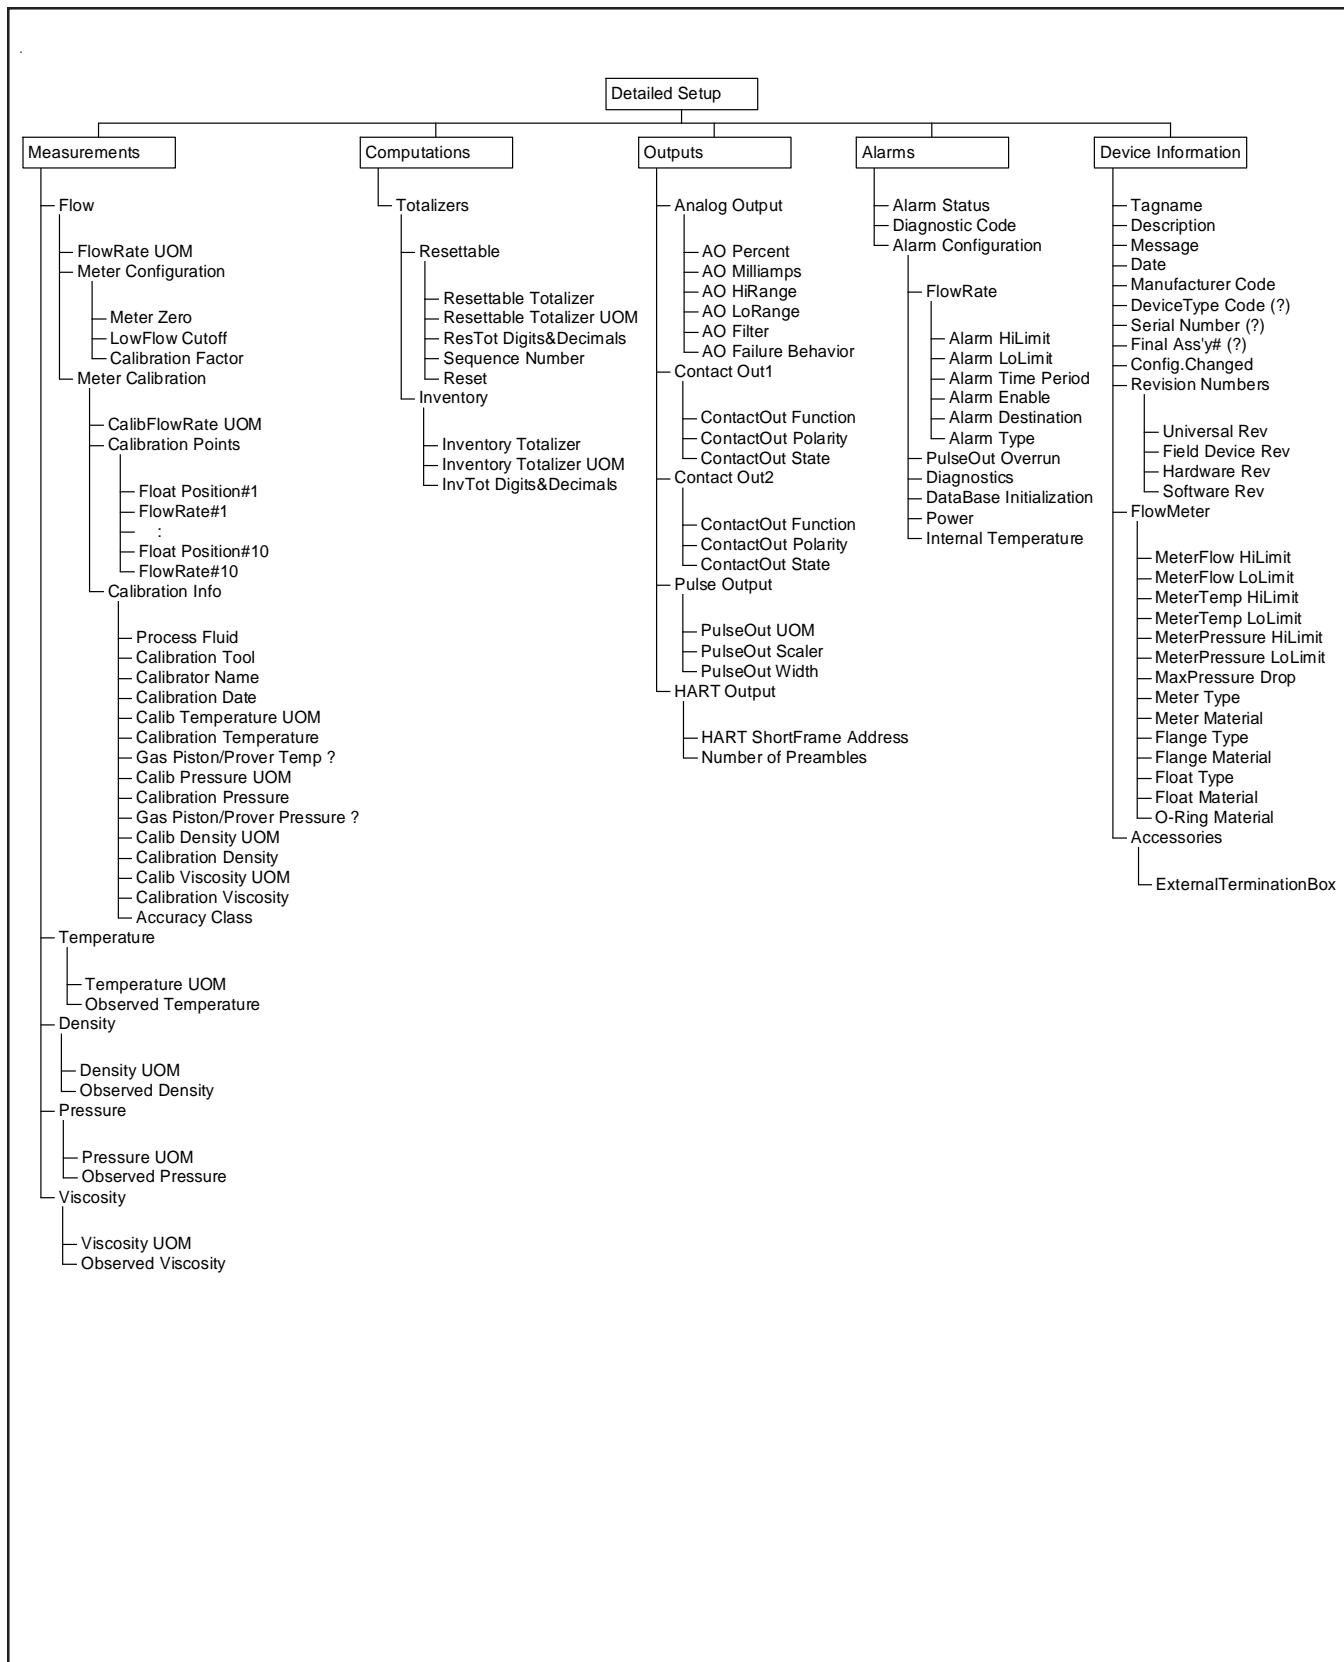

Figure 3-2 Models MT 3809 and MT 3819 SMM Electronics Device Description Tree (Detailed Setup)
7. Under actual flow conditions, verify that the transmitter output matches the mechanical pointer position. If a discrepancy is noted, the HART communications channel can be used to verify or adjust the transmitter settings. The Emerson Model 275 hand held communicator provides a simple means to accomplish this check anywhere in the loop. Refer to Figure 3-2 for connection instructions.
9. Under actual flow conditions, verify that the transmitter output matches the mechanical pointer position and that the alarms and pulse outputs are working properly. If a discrepancy is noted, the HART communications channel can be used to verify or adjust the transmitter settings. The Emerson Model 275 hand held communicator provides a simple means to accomplish this check anywhere in the loop. Refer to Figure 3-2 for connection instructions.
- 10.Under actual flow conditions, verify that the transmitter output matches the mechanical pointer position. If a discrepancy is noted with the transmitter, the HART communications channel can be used to verify or adjust the transmitter settings. The Emerson Model 275 hand-held communicator provides a simple means to accomplish this check anywhere in the loop. Refer to Figure 3-2 for connection instructions.